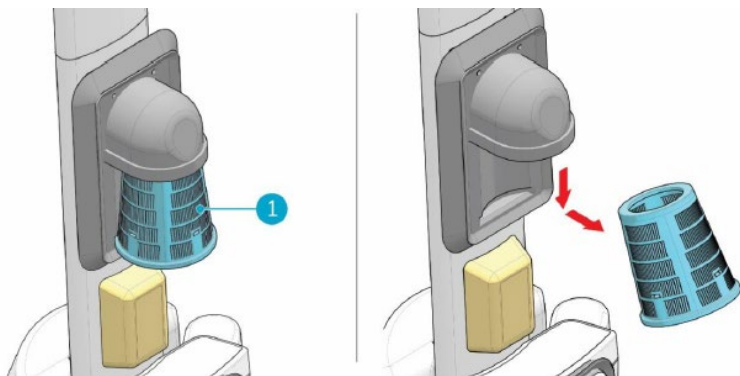

Fig 14
3. Release the blue suction filter (Figure 14, pos 1) from beneath the rubber holder by tilting it slightly and pulling it out.